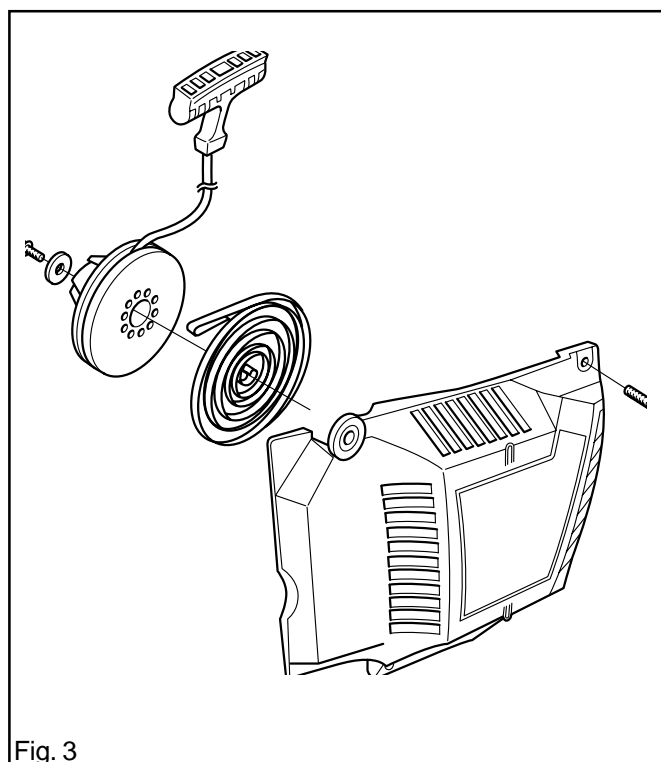

Fig. 3
4. Remove the central bolt and take out the washer and starter pulley. See fig. 3.
5. Fit the washer and bolt. See fig. 3.